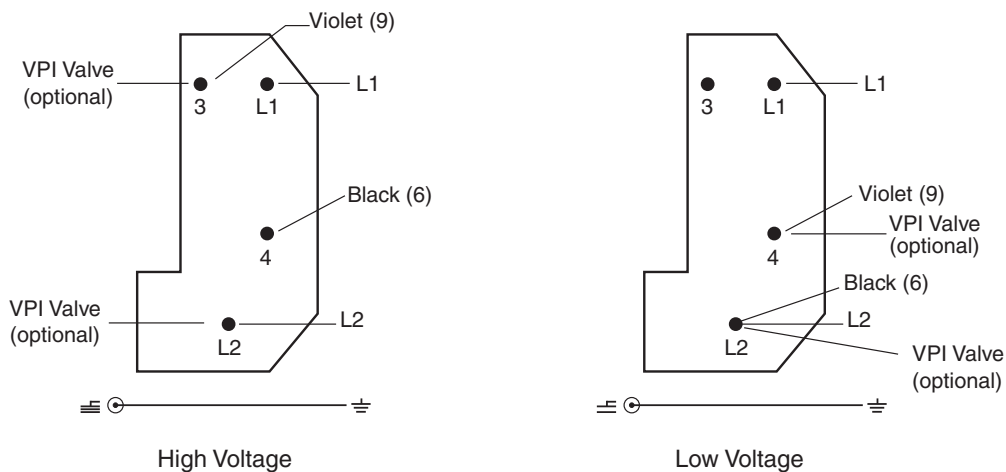
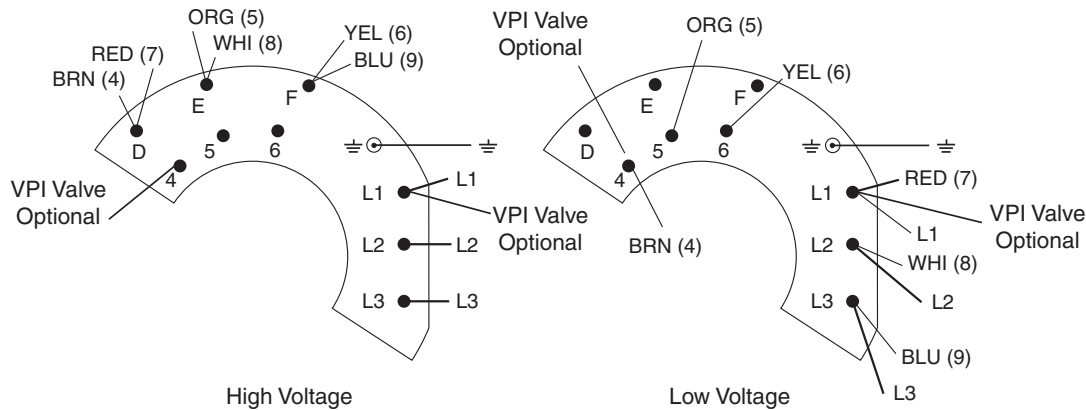

Figure 4 Single Phase Motor Electrical Connections
Figure 5 Three Phase Motor Electrical Connections
The pump can be configured for low voltage, 100 VAC to 115 VAC, or for high voltage, 200 VAC to 230 VAC. Low voltage exists between connection points "4" and "Line 2" whether the pump motor is configured for low or high voltage. Figure 4 shows the electrical connections for a single phase motor.
3. Refer to Figure 4 to connect the motor to match your supply voltage.
4. Wire L1 and L2 per Figure 4 using right angle flag connectors or ring connectors.
The pump can be configured for low voltage, 200 VAC to 230 VAC, or for high voltage, 380 VAC to 415 VAC and 460 VAC. As supplied from the factory, the pump is configured for low voltage. Figure 5 shows the electrical connections for three phase motor.
3. Refer to Figure 5 to connect the motor to match your supply voltage.
4. Wire L1, L2 and L3 per Figure 5 using right angle flag connectors or ring connectors.
Using the data in Table 19, verify that the VPI Valve chosen is compatible with the TriScroll supply voltage and frequency. Then, locate the proper wiring diagram to use (Figure 4 on page 36 or Figure 5 on page 37).
2. Connect the VPI Valve solenoid wire leads to the pump motor as shown in Figure 4 or Figure 5.